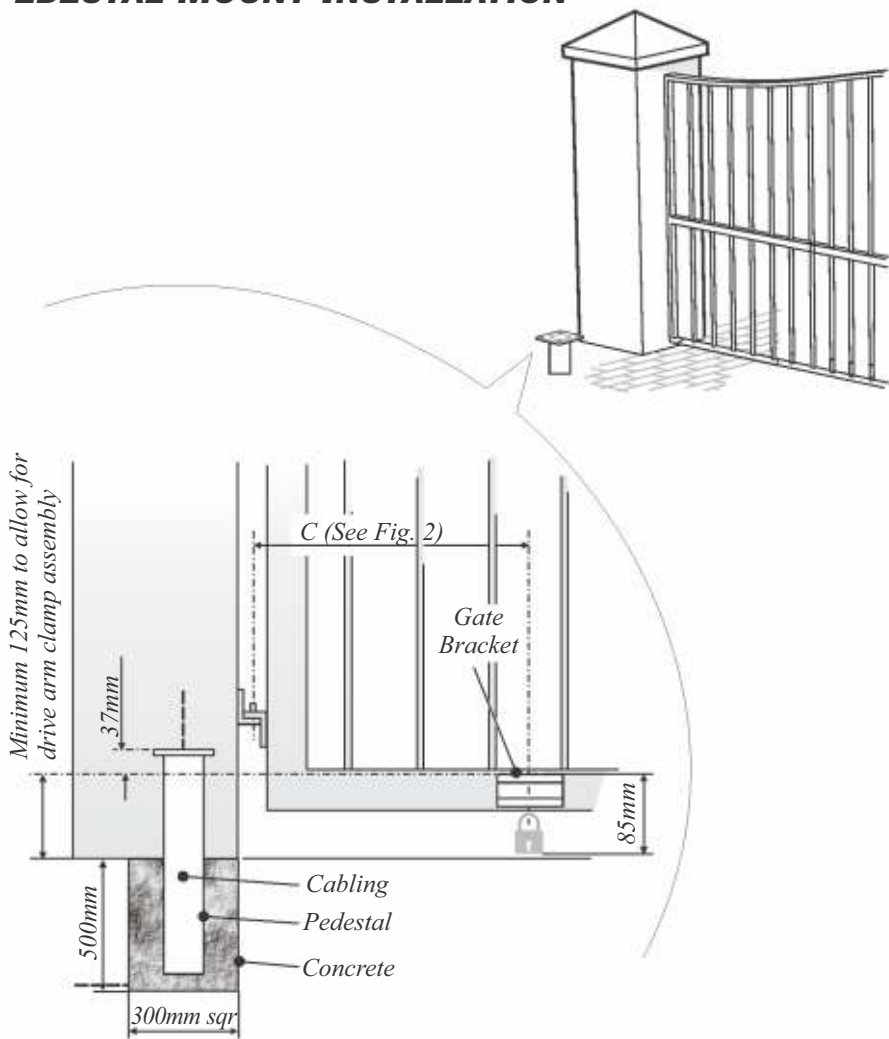

Figure 4 Pedestal/Gate Bracket vertical position
- Determine pedestal or wall mount bracket height relative to gate bracket as in figure 4 and 5. (IM page 21)